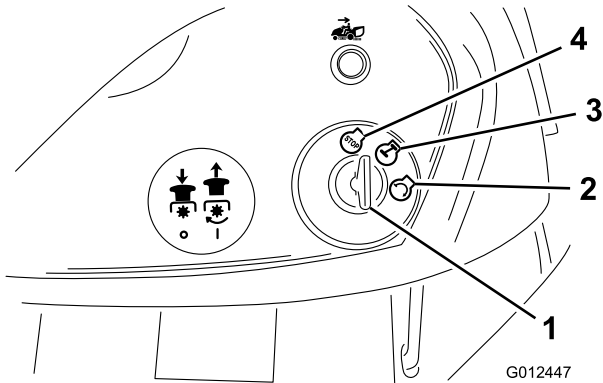

Figure 11
8. Turn the ignition key clockwise and hold it in the Start position (Figure 11).
2. Turn the ignition key to the Off position (Figure 11).